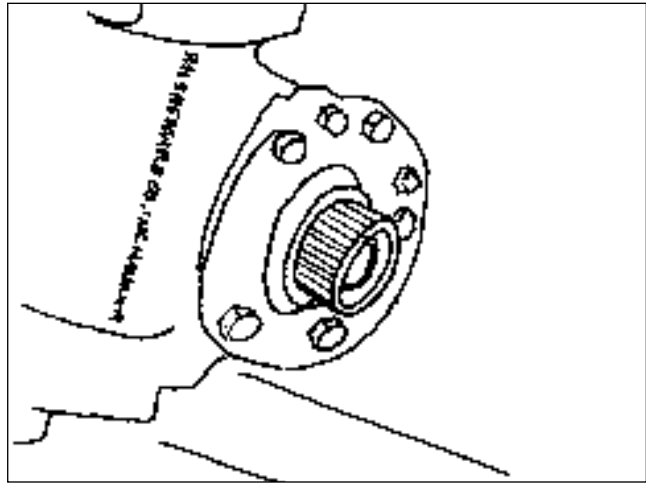

Figure 20
4. Remove the rubber boot from the sector shaft, and retain for reassembly (**Figure 20**).